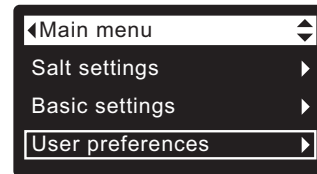

FIG. 62
1. From any of the rolling status screens, press the SELECT (O) button to display the **Main menu**.
2. Press the DOWN (▼) button to scroll through the menu options until **User preferences** is highlighted (See Figure 62).